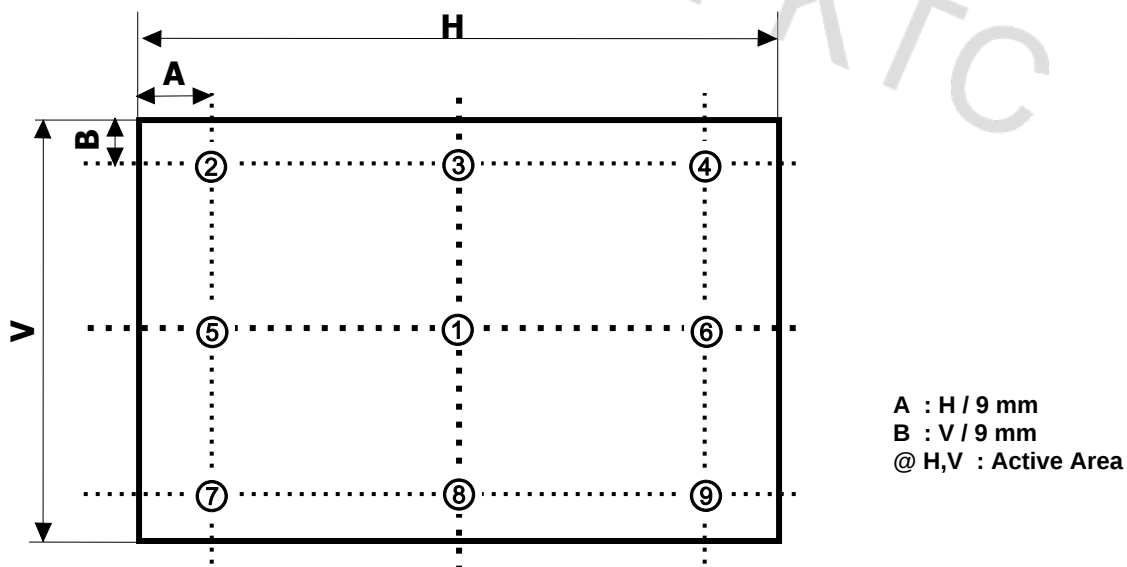

FIG. 3 9 Points for Luminance Measure
4. Response time is the time required for the display to transition from G(N) to G(M) (Rise Time, Tr) and from G(M) to G(N) (Decay Time, Td). For additional information see the FIG. 3. (N<M)